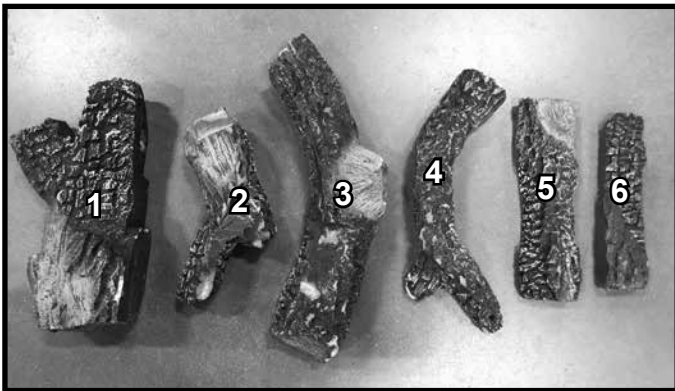

Figure 17. Log Identification
**NOTICE:** To simplify the installation process, use Figure 17 to positively identify each individual log before beginning installation.